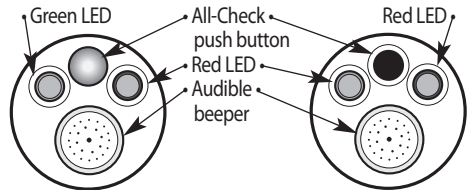

Figure 1
- 1A) Push and hold the test button on the inside of the polycarbonate housing to operate the All-Check self-test procedure. The red (alarm) LED light will flash and the buzzer will beep. After release of the button, the green LED light will illuminate for approximately one to two (1-2) minutes. The unit is ready for operation. (Figure 1)